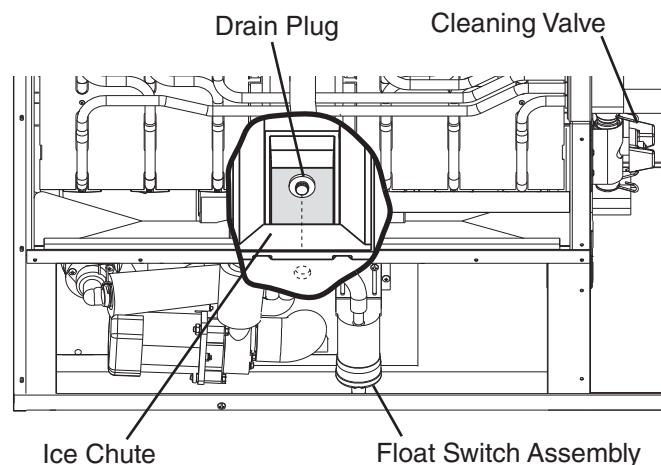

Fig. 19
- 7) Remove the insulation panel. Remove the drain plug located on the lower front part of the ice chute. See Fig. 19. Allow the water tank to drain.
4) Remove the front insulation panel, then remove the drain plug. See Fig. 19. After the water tank has drained, replace the drain plug and front insulation panel.